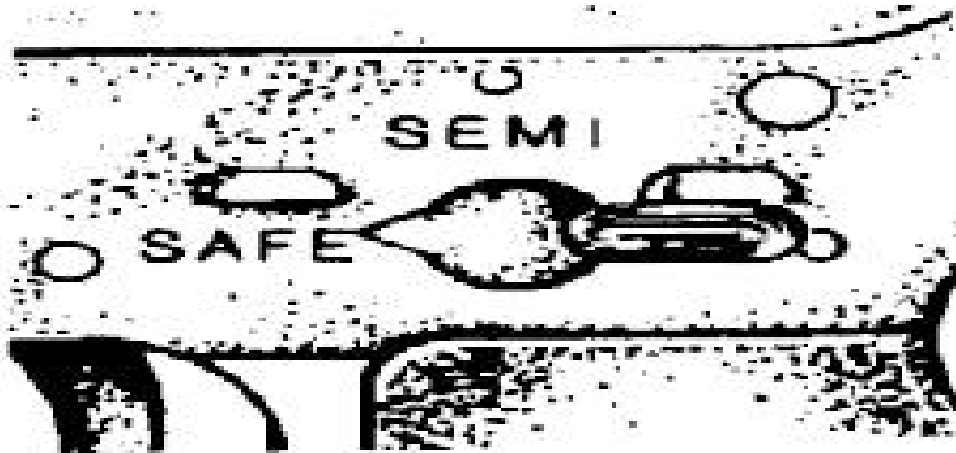

Figure E-43. Selector on SAFE
1. Check an M16-Series or M4-Series rifle with the selector lever in the SAFE position (figure E-43).